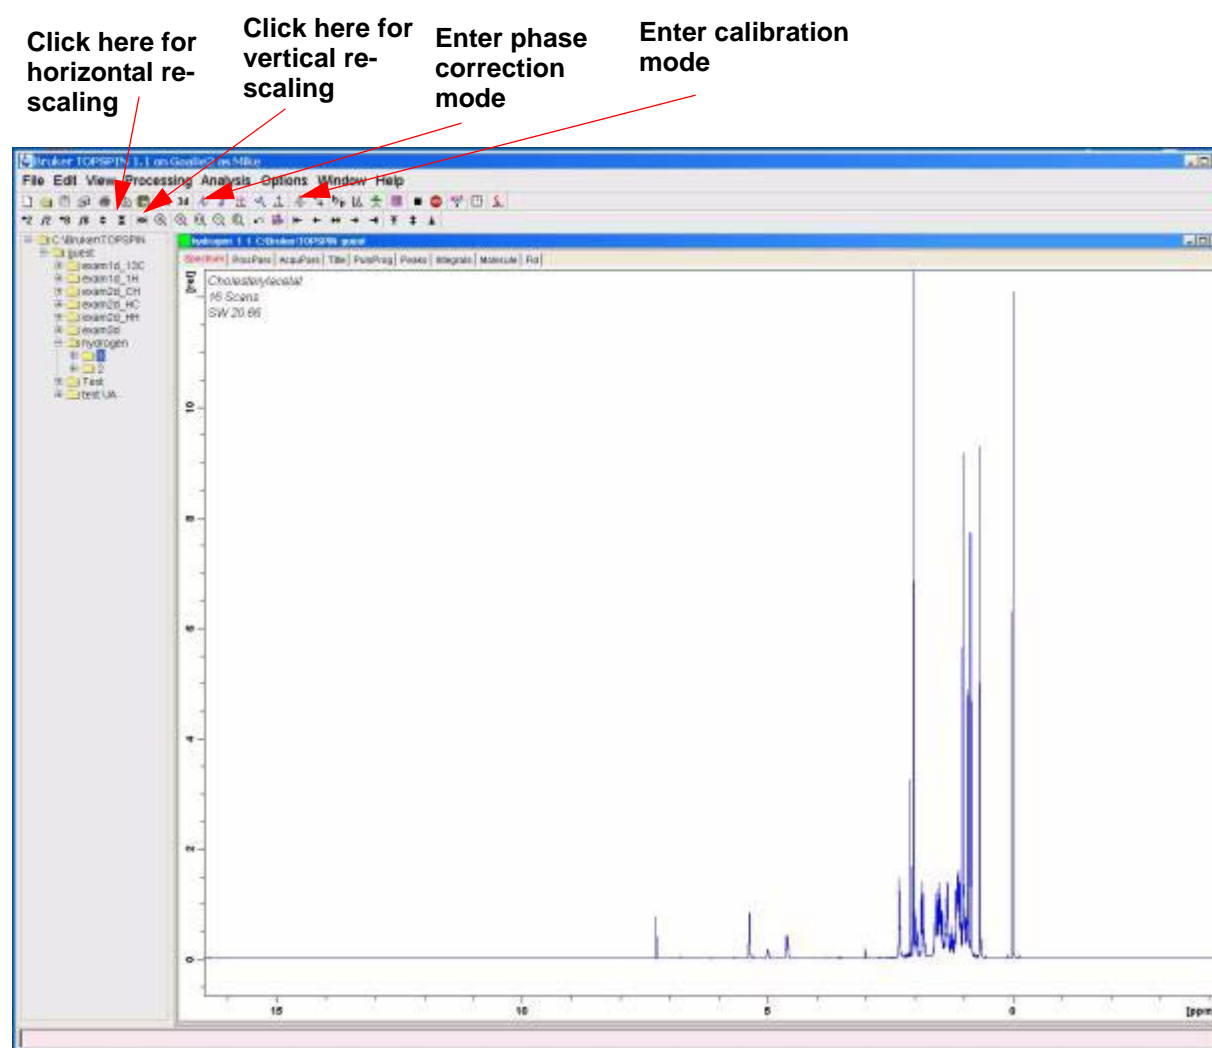

Figure 7.3: Some Useful Features of the Topspin Window
If at some stage the data disappears from view, click on the scaling functions demonstrated in **Figure 7.3**: to restore the data to the screen window.
3. To reset the horizontal spectrum and view the entire spectrum, click on the scaling button as demonstrated in Figure 7.3.